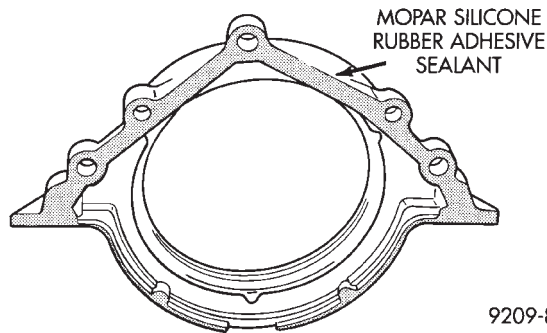

Fig. 13 Apply Sealant to Oil Seal Housing
(2) Apply (Mopar Silicone Rubber Adhesive Sealant or equivalent) to oil seal housing (Fig. 13) per procedure detailed in form-in-place gasket section in Standard Service Procedures.